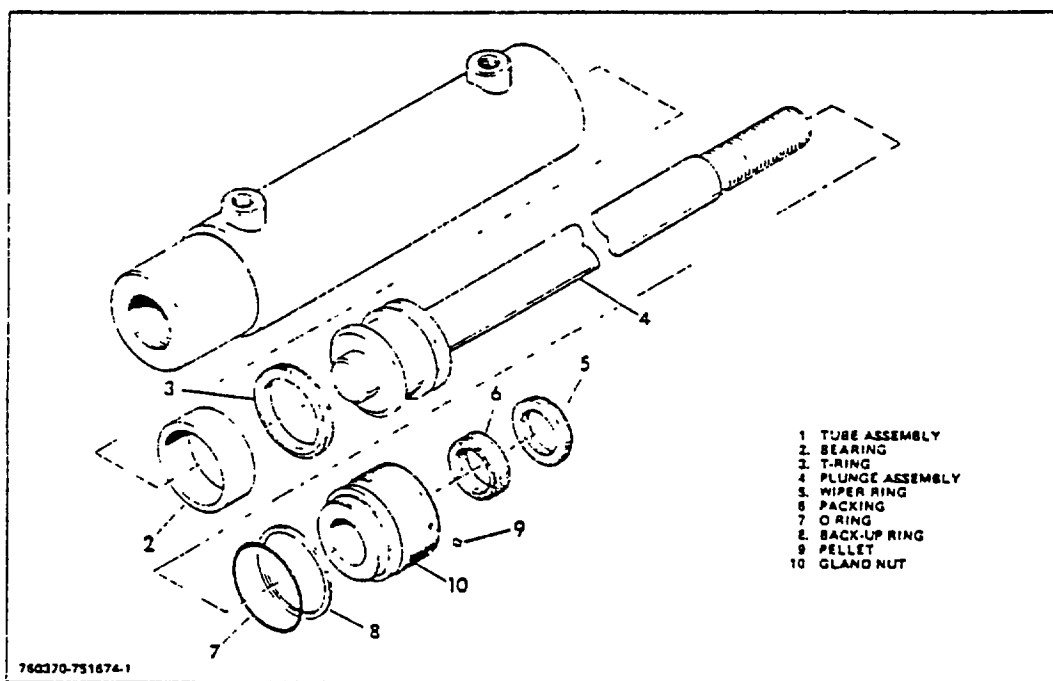

Figure 6. Power Steering Components (PRT)
4. Remove cylinder from its connection at truck frame. (Figure 6.)